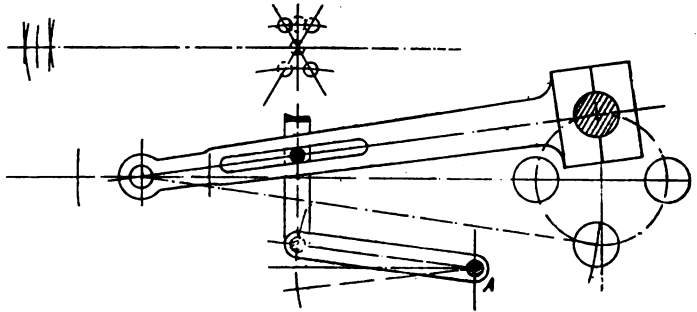

FIG. 1.—MODEL LOCOMOTIVE VALVE GEAR SUGGESTED BY MR. J. LORD.
Mr. John Lord, of Barrow-in-Furness, who has had some considerable experience in model locomotive building, writes as follows:—"I have never turned attention to the Joy valve gear until the interesting articles have appeared of late. On drawing out the new gear I find that the discrepancy at the admission and cut-off is not quite up to my standard, and have therefore drawn out the gear shown in the accompanying drawing (Fig. 1). The anchor link can be dispensed with and the vibrating link made to pass through a round hole in the brass plate. No lead is possible, but I always advise a little lap with two cylinders, the power lost being of slight consequence at such a small leverage, the other cylinder, of course, being a full stroke. The only drawback is the friction of the pin in the slotted connecting-rod, but I believe it would prove much less than link gear or rocking motions. The engine I told you
J. L.'s letter interests me very much, as it shows how different people quite independently devise the same mechanisms. The gear illustrated in Fig. 1 was, I believe, used by Messrs. Carson & Co., Ltd., when they first brought out their "Precursor" locomotive, but the anchor link was placed the other way round—that is, in the position which it is usually found in actual practice. This, however, is a point which does not affect the working of the gear except so far as it is more convenient to place the fixed pin or suspension point of the anchor link (marked A on drawing) in front rather than behind the vertical vibrating link, as shown by J. L. Furthermore, I do not think J. L. quite clearly